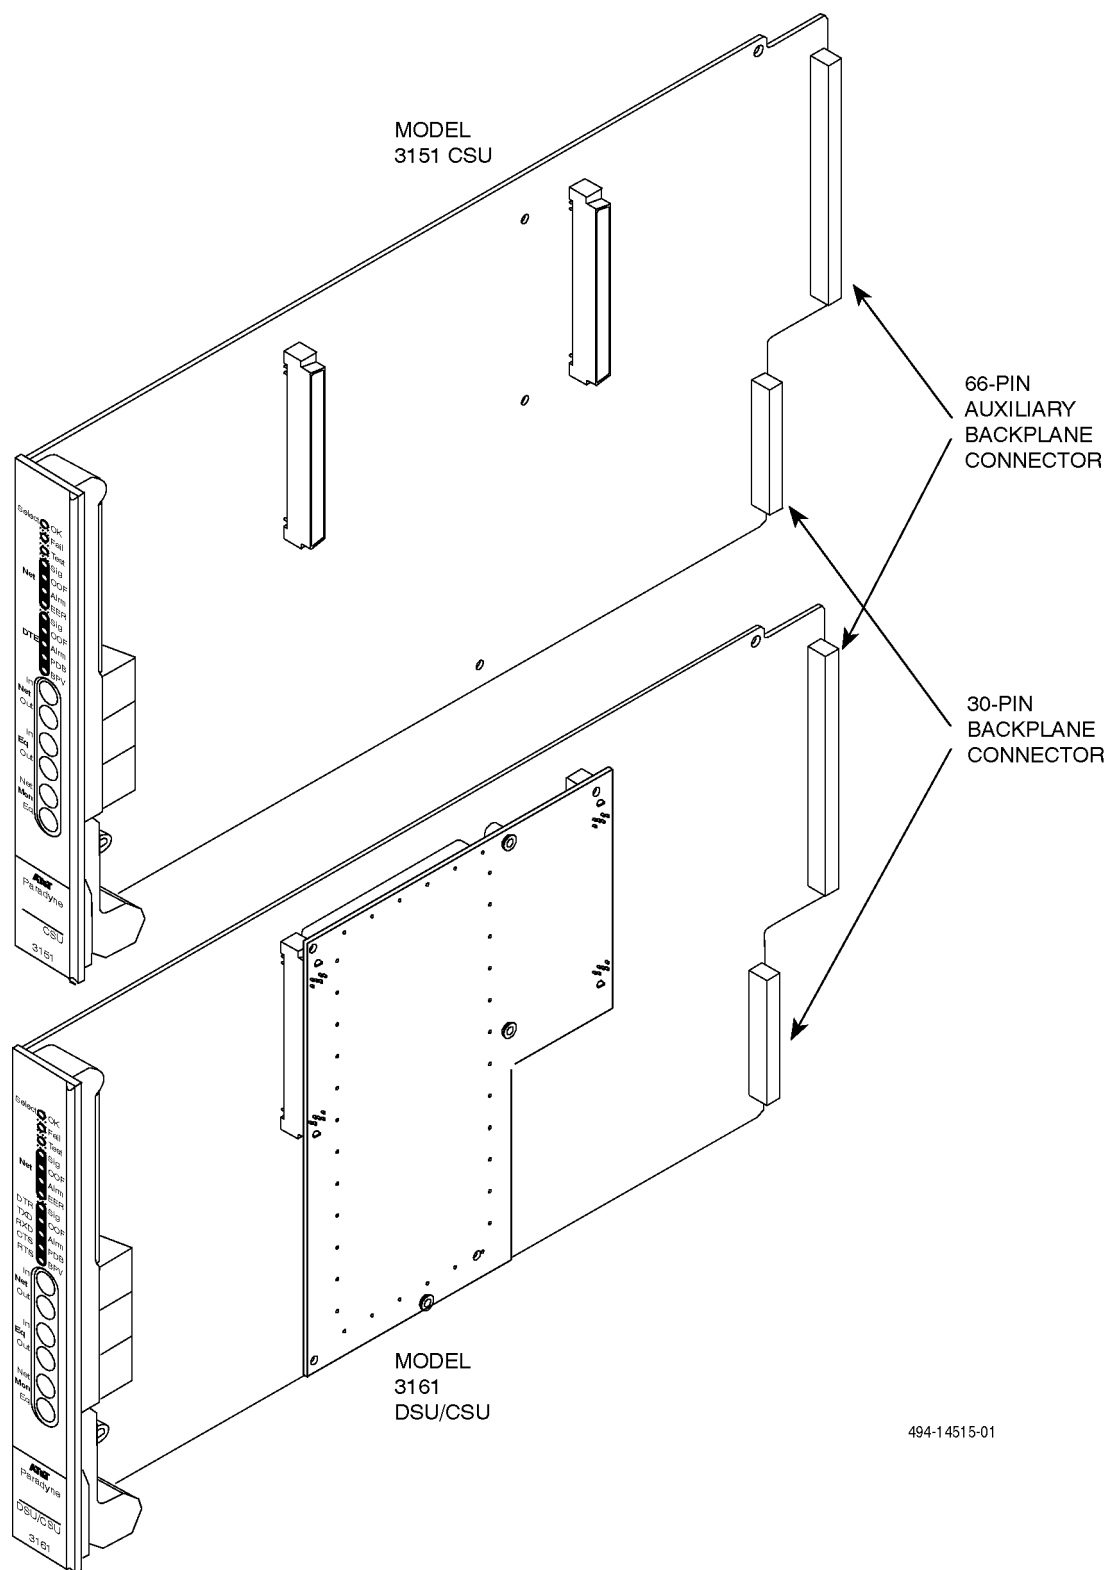

Figure 3-36. Model 3151 and 3161 Circuit Cards
Before you install Model 3151 CSUs or Model 3161 DSU/CSUs in a carrier, you must first install an Auxiliary Backplane, as described in the *Auxiliary Backplane Installation* section earlier in this chapter. Figure 3-36 shows the Models 3151 and 3161 circuit cards.
5. Connect cabling, install ferrite chokes (Figure 3-36), configure the unit, and perform verification testing as described in the appropriate *Installation and Operation Manual* or *Applications Guide*.